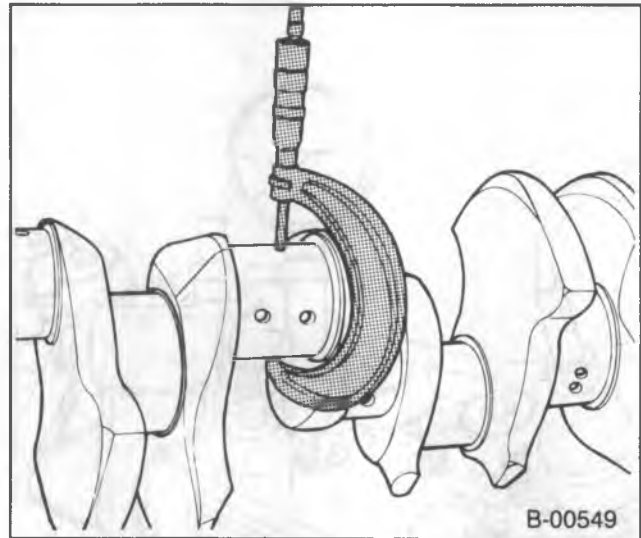

Figure 42—Measuring the Crankshaft Journals
Measure (Figures 42 and 43)
- Main bearing and connecting rod journal diameters (figure 42). Compare with "Specifications." Grind or replace the crankshaft if necessary.
- Main bearing and connecting rod journals for taper and out of round (figure 42). If the journals are tapered or out of round more than 0.001-inch, grind or replace the crankshaft.